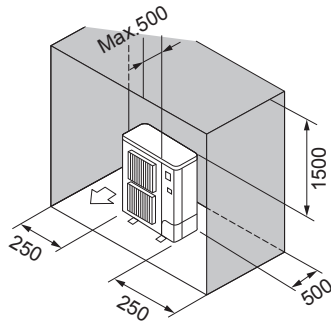

Fig. 5-8
- ⑥ Obstacles at rear, sides, and above only (Fig. 5-8)
(2) When installing multiple outdoor units